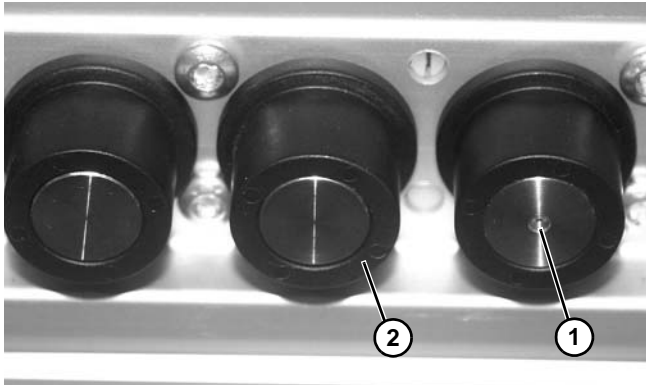

Figure 41
Keep strict attention to roller type. To differentiate and correctly install the two different style rollers: Driven rollers have a dot (Figure 41, item 1) in the center, and slip rollers (Figure 41, item 2) do not.